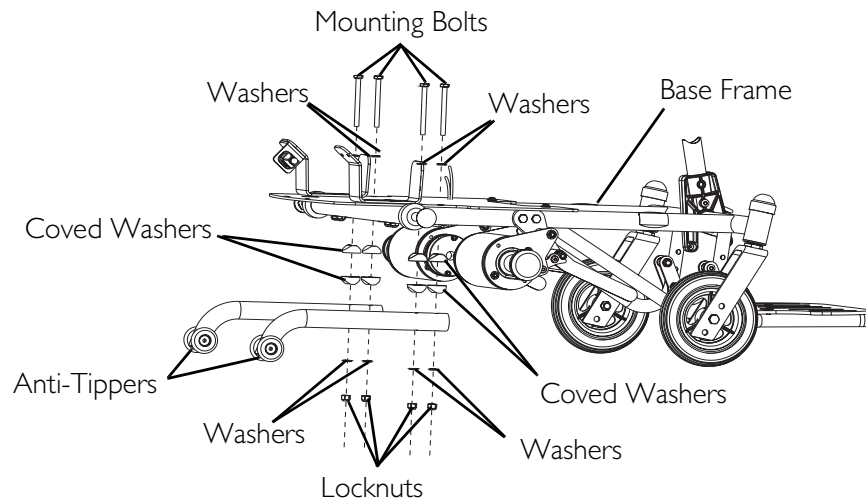

FIGURE 12.1 Removing/Installing the Anti-Tippers - At'm
NOTE: For this procedure, refer to FIGURE 12.1 on page 72.
4. Remove the two mounting bolts, four washers, two locknuts, and four covered washers that secure the anti-tipper to the base frame (FIGURE 12.1).
1. Install the anti-tippers to the base frame using the two mounting bolts, four washers, two locknuts, and four covered washers that secure the anti-tipper to the base frame (FIGURE 12.1).